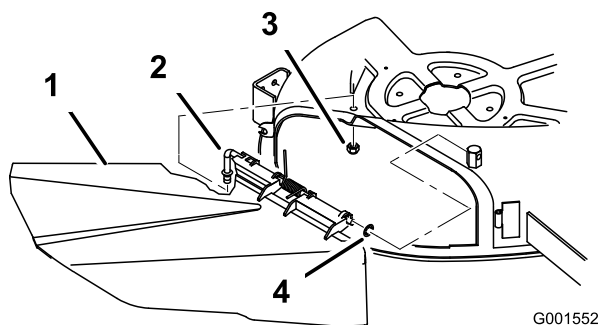

Figure 10
- Remove the nut, under the mower, holding the pivot rod and grass deflector to the mower (Figure 10).
- Remove the pivot rod and grass deflector from the mower (Figure 10)